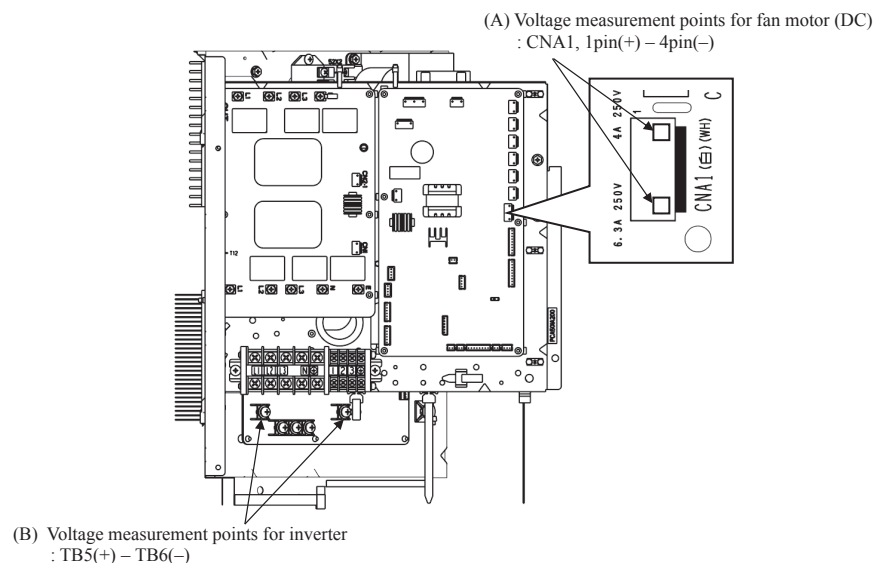

Fig.2 Voltage measurement points
- 2) In the situation that harnesses are connected to control PCB, **be sure to measure voltage (DC) of two places ((A), (B))** and check that **the voltage is discharged sufficiently.** (Refer to Fig.2)